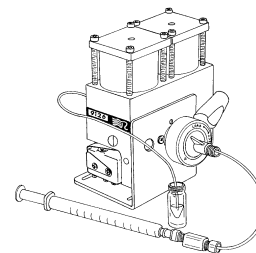

Fig. 8. Loading by suction using the Needle Adapter assembly.
Refer to Figure 8 and proceed as follows:
- Insert an empty syringe into the needle port and suck up sample into the loop. Alternatively, use the Needle Adapter. Use of this needle adapter is shown in Figure 8.